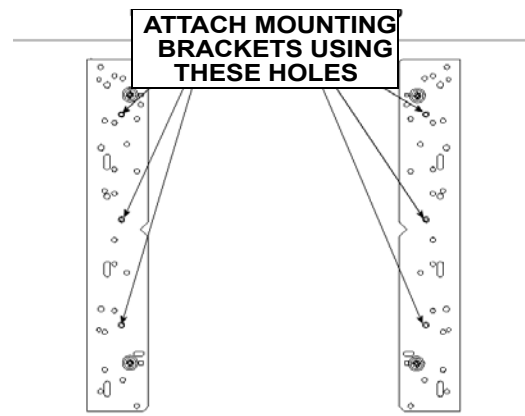

Figure 15. Bracket Attachment for Group 4
4. Place the interface brackets over the Nylon spacers (see Figure 15).